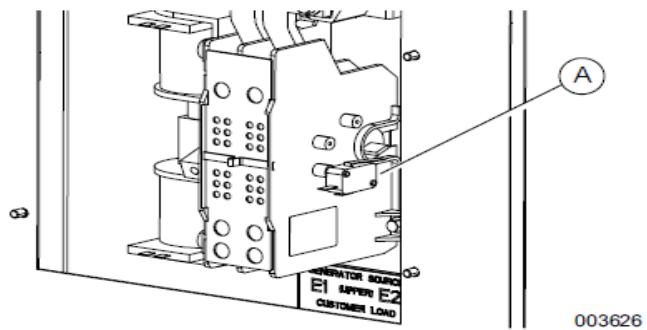

Figure 3-4. Auxiliary Contact
See **Figure 3-4**. If desired, there is one normally-closed Auxiliary Contact (A) on the transfer switch to operate customer accessories, remote advisory lights, or remote annunciator devices. A suitable power source must be connected to the common terminal. If needed, an extra auxiliary contact can be added.